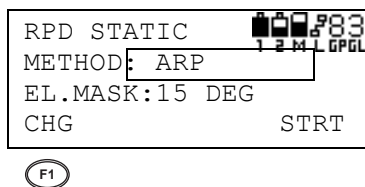

Figure 3-37. Enter Measuring Method
- Use the **up/down cursor key** to scroll down to the antenna height measuring method. Press **F1 (CHG)** and select either antenna reference point (ARP) or slant using the left/right cursor keys (Figure 3-37).